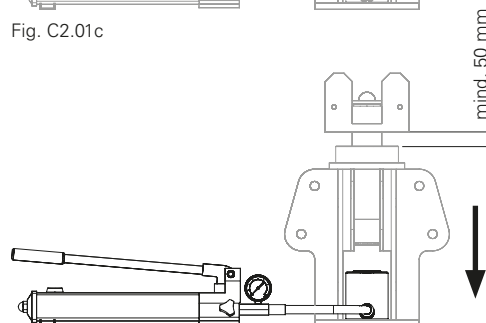

Fig. C2.01d
4. Release pressure from the hydraulic cylinder (50.1). (Fig. C2.01d)
6. Adjust the height for all four head spindles (2)